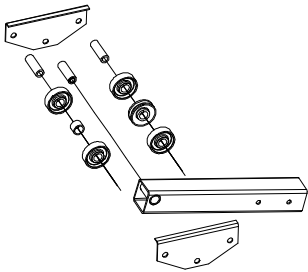

FIGURE 2
6. Install track roller brackets and track roller as shown in **Fig 2**. (do not tighten)